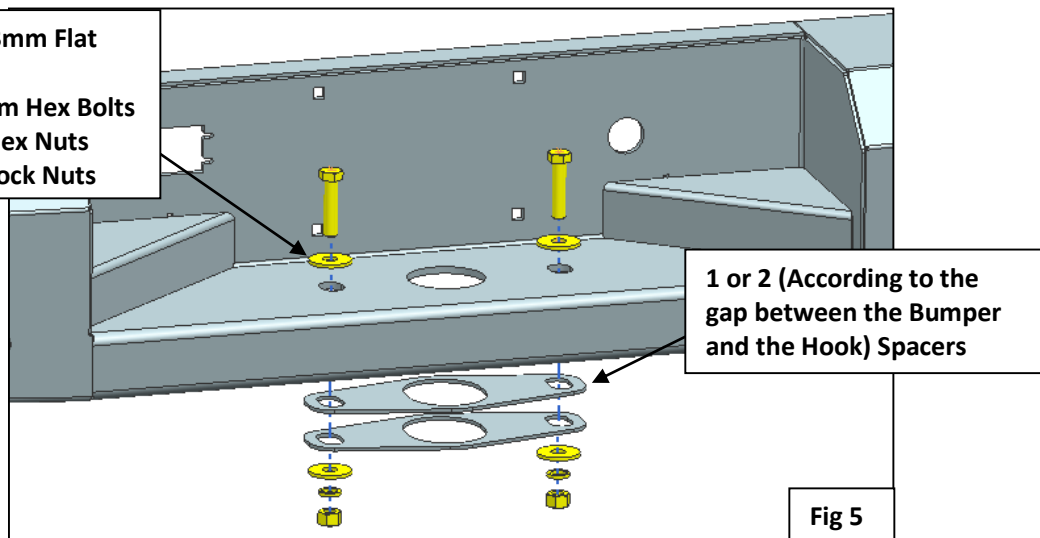

Fig 5
6. Install the Rear Towing Hook to the Bumper (**Fig 5**). Select the Spacers, fasten the hook and the spacers with the hardware (Models with Rear Towing Hook only).